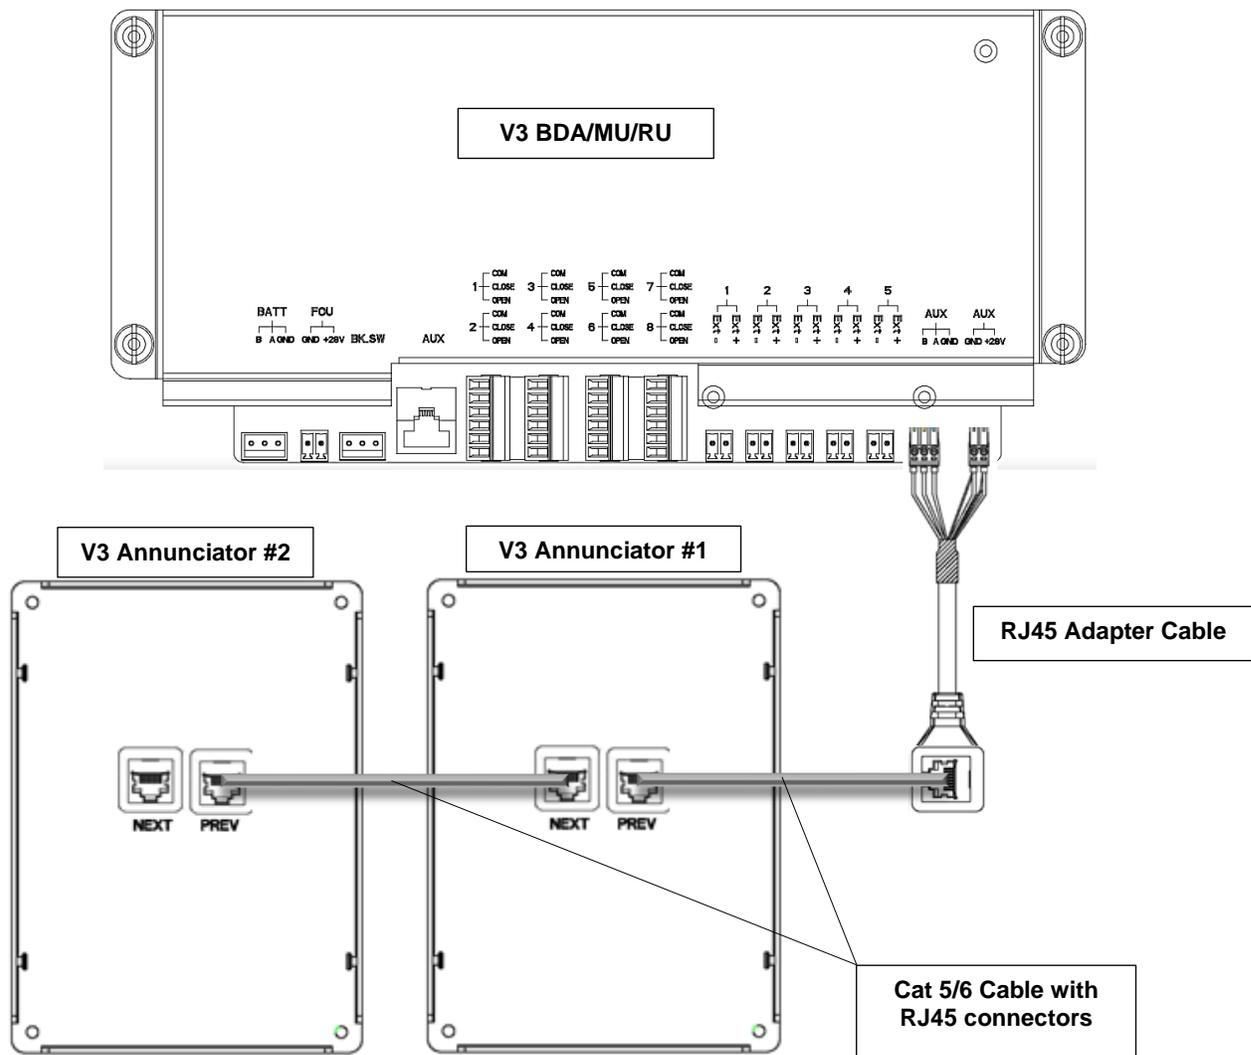

Figure 81: V3 BDA/MU/RU Wiring Connection to V3 AP
Follow the instructions below and see Figure 81 below, to connect a V3 AP to the V3 BDA/MU or RU:
- Connect the RJ45 adapter to the BDA/MU/RU as shown in Figure 81 below.